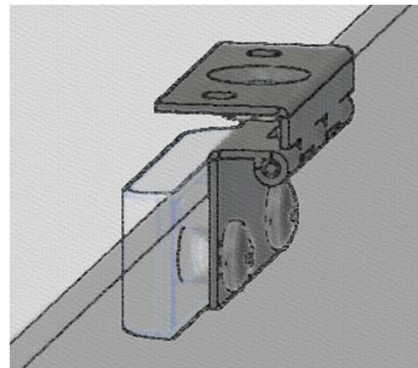
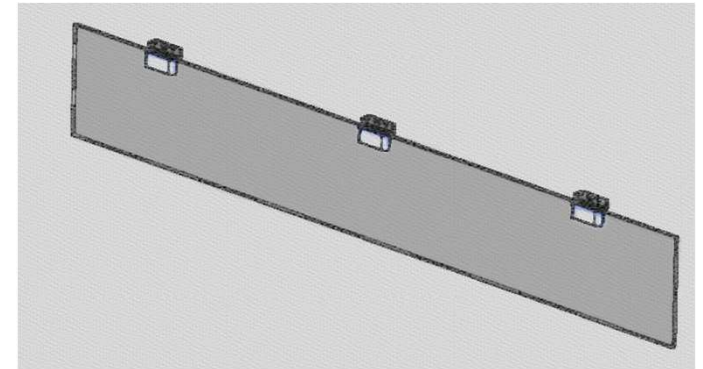

Fig. 1A
Fig. 1B
1. Align the bolt holes in the metal decorative cap with the pre-drilled holes on the front side of the acrylic modesty panel. Then align the larger 9/32" holes of the hinge bracket with holes on the back side of the panel. Use (2) 1/4-20 x 1/2" machine screws to attach. (Fig.1A) Repeat for the remaining brackets. Panels for tables 60" and longer require (3) brackets. Panels for tables less than 60" require (2) brackets (Fig.1B)